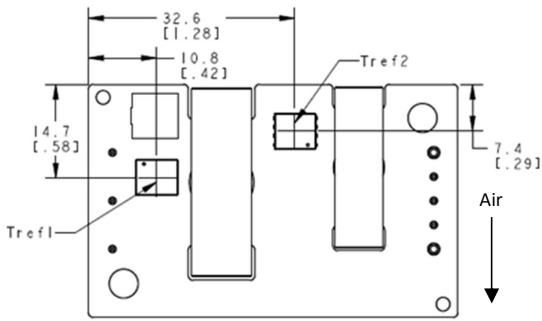

Figure 13. Tref Temperature Measurement Location for open frame version.
To provide protection under certain fault conditions, the unit is equipped with a thermal shutdown circuit. The unit will shutdown if the thermal reference point  $T_{ref}$  (Figure 13), exceeds 135°C (typical), but the thermal shutdown is not intended as a guarantee that the unit will survive temperatures beyond its rating. The module will automatically restart upon cool-down to a safe temperature.
The thermal reference points,  $T_{ref1}$ , and  $T_{ref2}$  used in the specifications for open frame modules are shown in Figure 13. For reliable operation these temperatures should not exceed 124 °C & 124 °C respectively.